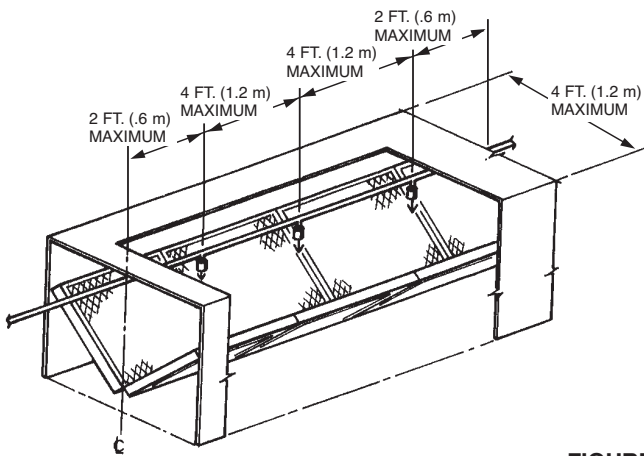

FIGURE 6
- One 1W nozzle will protect 4 linear feet (1.2 m) of plenum. The maximum distance from the end of the hood to the first and last nozzle must be no more than 2 ft. (.6 m). After the first nozzle, any additional nozzles must be positioned at a maximum of 4 ft. (1.2 m) apart down the entire length of the plenum. The plenum width must not exceed 4 ft. (1.2 m). (The 1W nozzle can be used on single or V-bank filter arrangements.) See Figure 6.